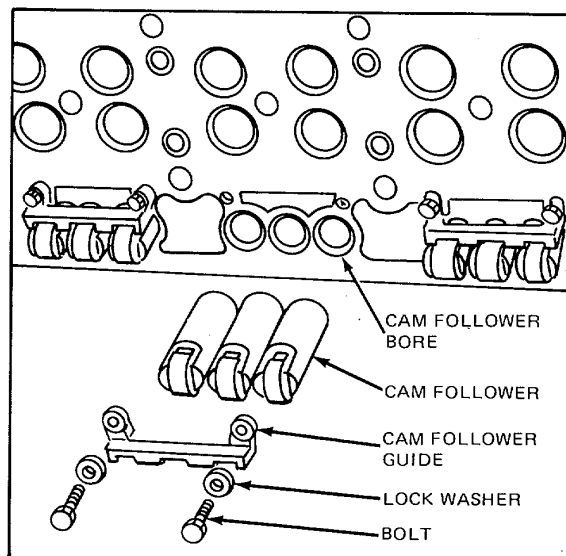

Figure 3. Cam Followers and Guide
1. Rest the cylinder head on its side (Fig. 3) and remove the cam follower guide.